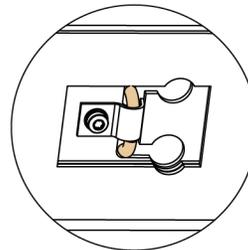

Figure 22. Storing the removed jumper cable on the delay-line assembly
3. Follow the steps shown in Figure 22 on page 51 to store the jumper that was removed in the previous step. If you ever need to remove the delay line (for example, to test optical signals), you'll have the original jumper available to re-install.